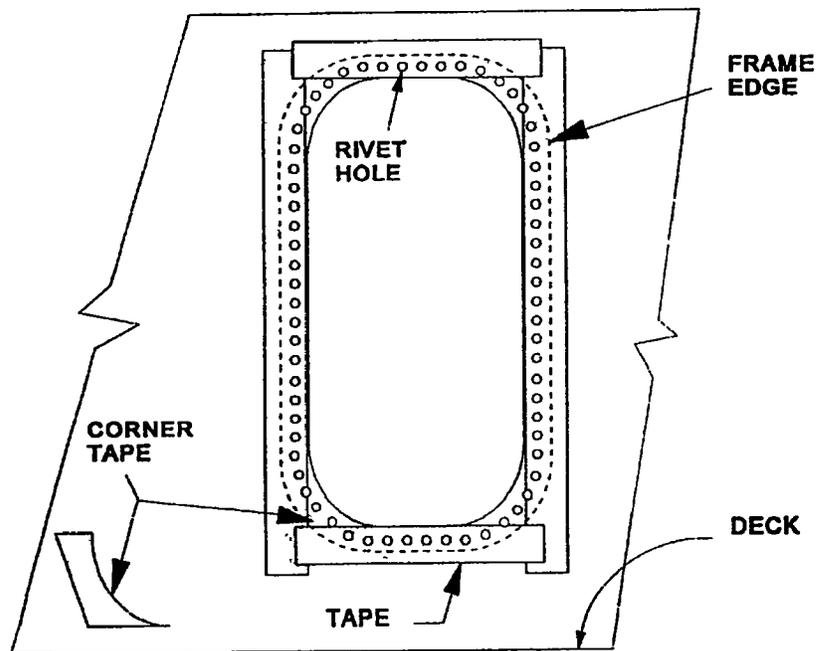

Figure 600-2.75. Dielectric Tape Installation
- b. Drill holes for huck rivets though the frame and bulkhead. For a standard 8- or 10-dog door, drill approximately 60 holes. Drill the holes close enough to the outer edge of the door frame to avoid having huck rivets interfere with the operation of the quick-acting linkage assembly. See figure 600-2.75.
- c. Before installing the door frame, apply two layers (8-1/2 millimeters each, 17 millimeters total) of dielectric barrier tape to the area of the bulkhead that will be in contact with the door frame. The bulkhead must be smooth. (Refer to paragraph 600-2.5.1.1) Install strips of dielectric tape along the entire edge of the clear opening. Cut curved pieces for the corners. See figure 600-2.75.